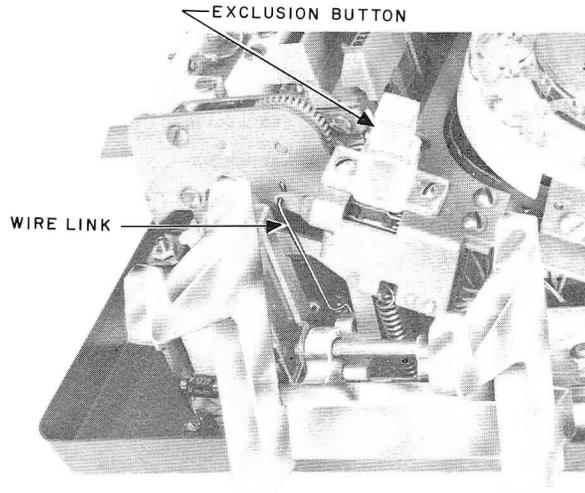
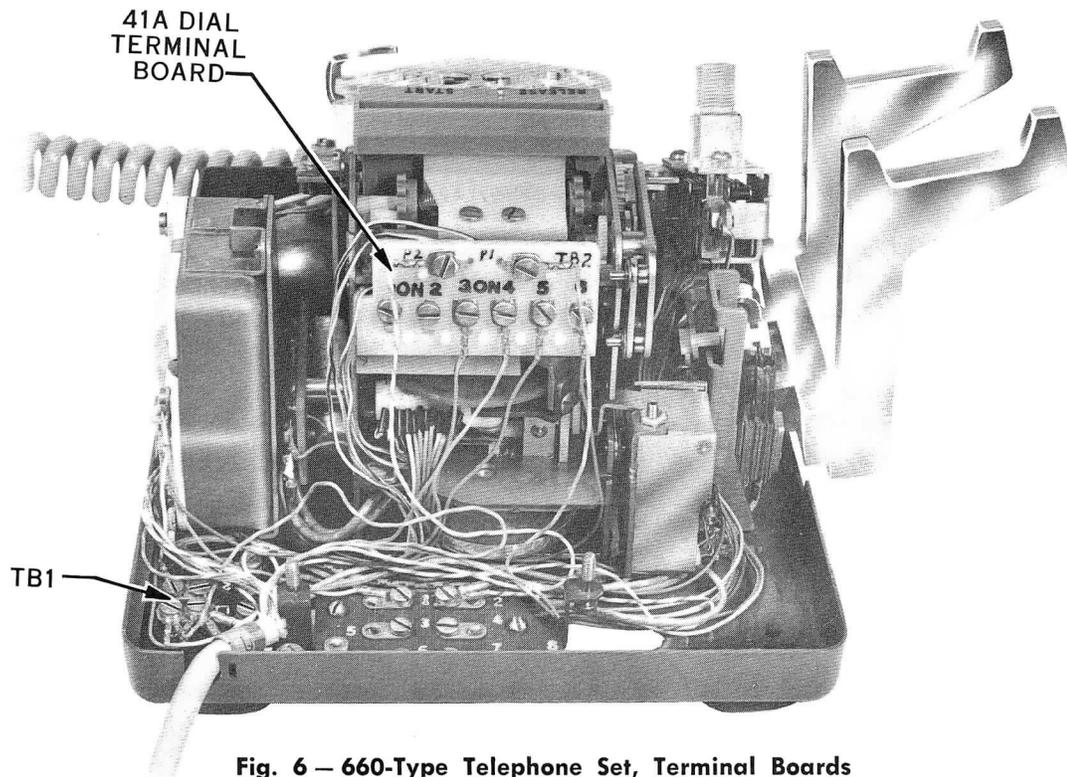

Fig. 5 – Exclusion Switch Assembly
Fig. 6 – 660-Type Telephone Set, Terminal Boards
- (1) Remove dial from set as shown in 3.03.
- (2) Disconnect spade tipped dial leads.
- (3) Loosen two screws holding dial to adapter, and remove dial.
- (4) Attach replacement dial to adapter making sure dial is positioned properly.
- (5) Reterminate dial leads.
- (6) On sets with exclusion, start wire link from exclusion switch into hole on switchhook assembly. (See Fig. 5.)
- (7) Slide slots of dial adapter under dial mounting screws.
- (2) Disconnect wiring from terminal strip on rear of dial (Fig. 6).
- (3) Turn set on side and remove three screws holding dial to baseplate. Dial can now be removed.
- (4) Place new dial in position taking care not to pinch any wiring between dial and baseplate.
- (5) Fasten dial to baseplate with three mounting screws.
- (6) Reterminate leads to dial on terminal strip.
- (7) Reconnect power supply.
- (8) Using properly coded card, check operation of the dial.
- (1) Remove 8C dial.
- (2) Attach exclusion switch assembly to dial adapter with two screws provided. (See Fig. 5.)
- (3) Dress exclusion switch leads along left side of 41A dial and between control relay and switchhook assembly so that terminal board is in position at rear of set.
- (4) Connect wire link to exclusion switch assembly by placing end of wire link having two 90 degree bends into hole provided in switch assembly. (See Fig. 5.) Start link from left side of assembly.
- (5) Remount 8C dial making sure that wire link enters hole provided in switchhook assembly. Tighten dial mounting screws.
- (6) Mount terminal board to base with screws provided. (See Fig. 6.)
- (7) Replace D6AF cord with D10L cord.
- (8) Replace faceplate with one providing an opening for exclusion button.
- (9) Replace housing and check set for proper operation.